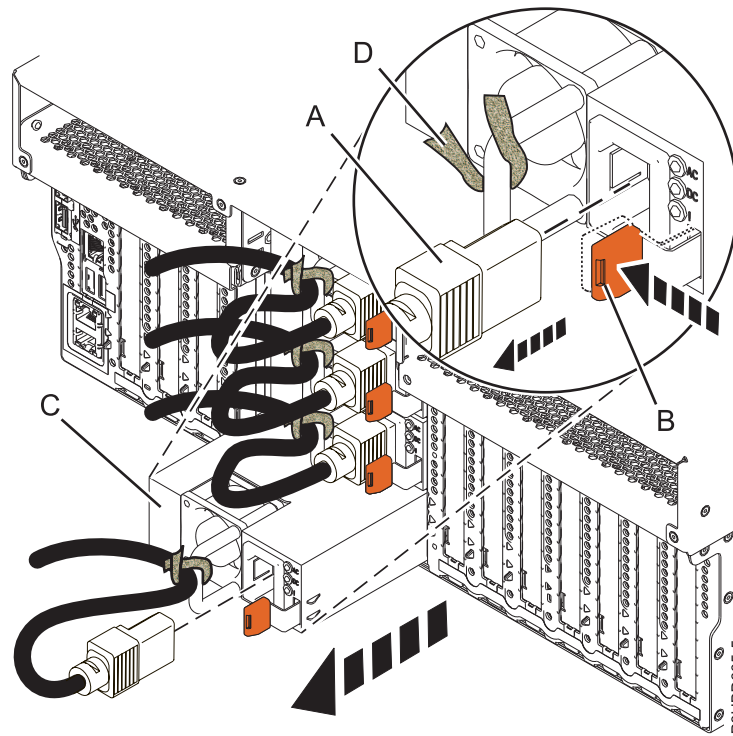
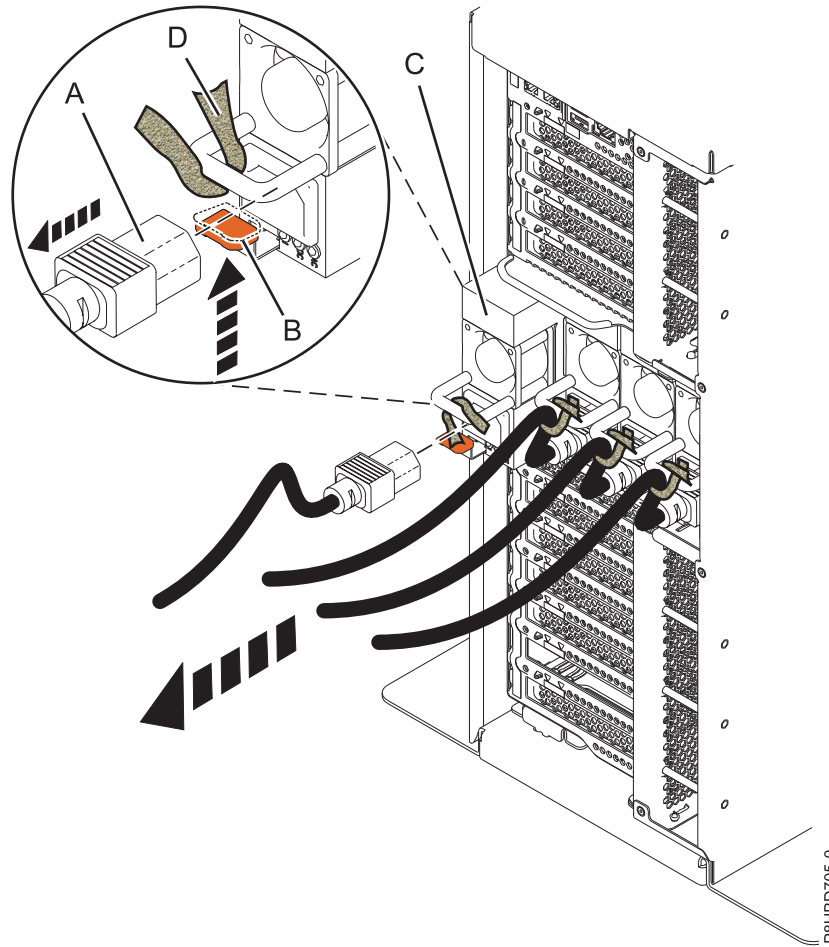

Figure 7. Removing a power supply from a rack-mounted system
Figure 8. Removing a power supply from a stand-alone system
3. Label and disconnect the power cord from the power supply by pulling the end of the power cord (A) out of the power supply in the direction that is shown in Figure 7 on page 9 for a rack-mounted system and Figure 8 on page 10 for a stand-alone system.
4. To unseat the power supply from its position in the system, push the terracotta locking-tab (**B**) in the direction shown in Figure 7 for a rack-mounted system and Figure 8 on page 10 for a stand-alone system.
6. Pull the power supply (**C**) away from the system, as shown in Figure 7 for a rack-mounted system and Figure 8 on page 10 for a stand-alone system.